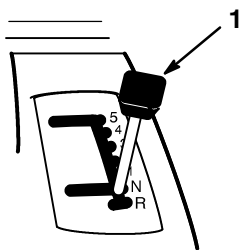

Figure 6
3. Move the ground speed selector into neutral (N) (Fig. 6).